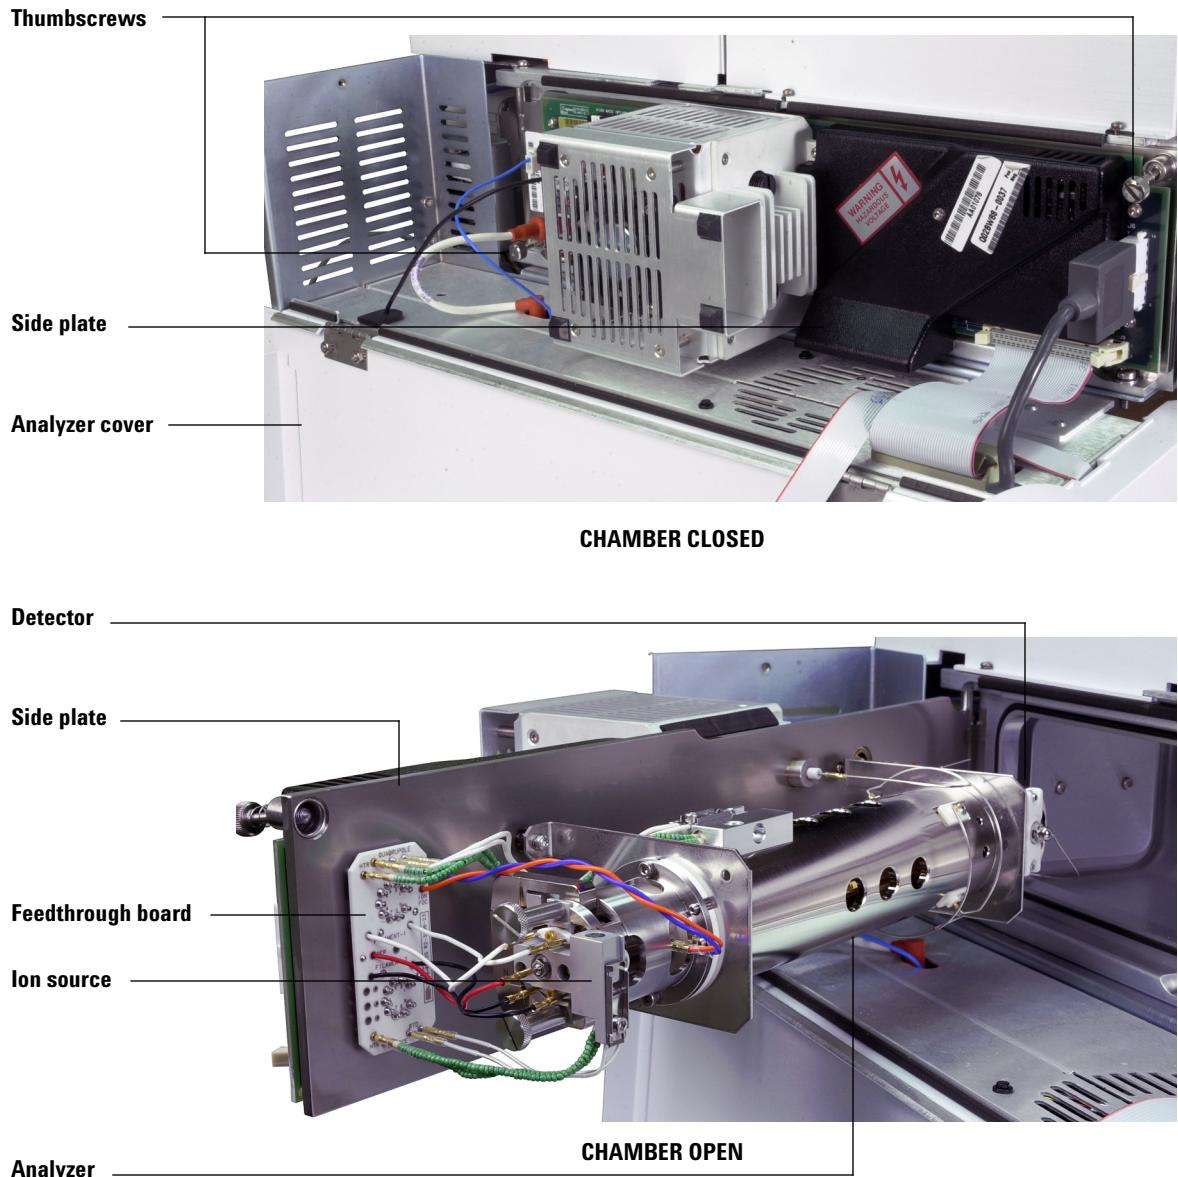

Figure 21 The analyzer chamber
- 3 Loosen the side plate thumbscrews (Figure 21) if they are fastened.